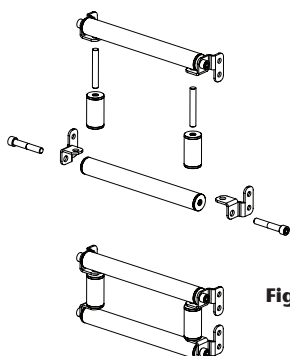
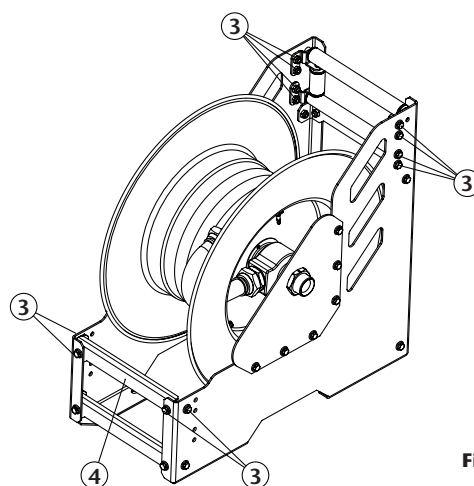

Fig. 3
Fig. 4
5. Assemble between then, the hose outlet components took apart previously as shown (fig. 3), and take them to their new position as shown. Then, screw the bolts (3) (fig. 4).
6. Finally, assemble the crosspiece (4) (fig. 4) at the indicated position.